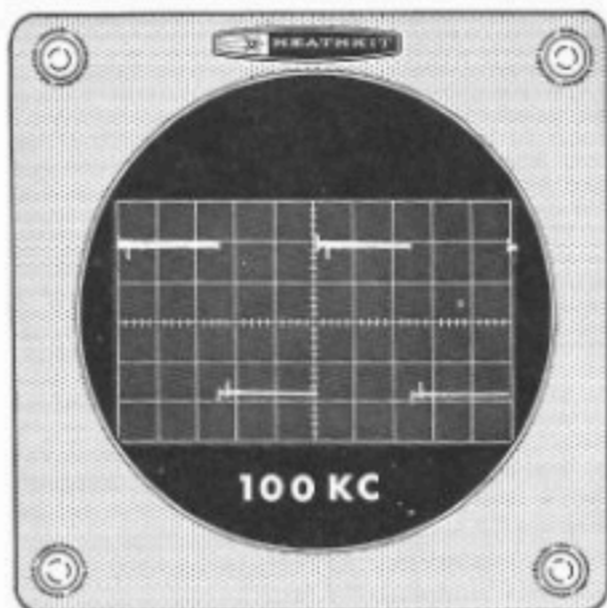

Figure 2-3
- () Adjust trimmer C635 on the TIME/CM switch (see the Chassis Photo on Page 136) so two complete waveforms just fill the width of the graticule (10 cm). (Each of the two square waves should be exactly 5 cm wide.) See Figure 2-3. This adjustment must be made accurately. Do not be concerned that the trace continues past the right side of the graticule.